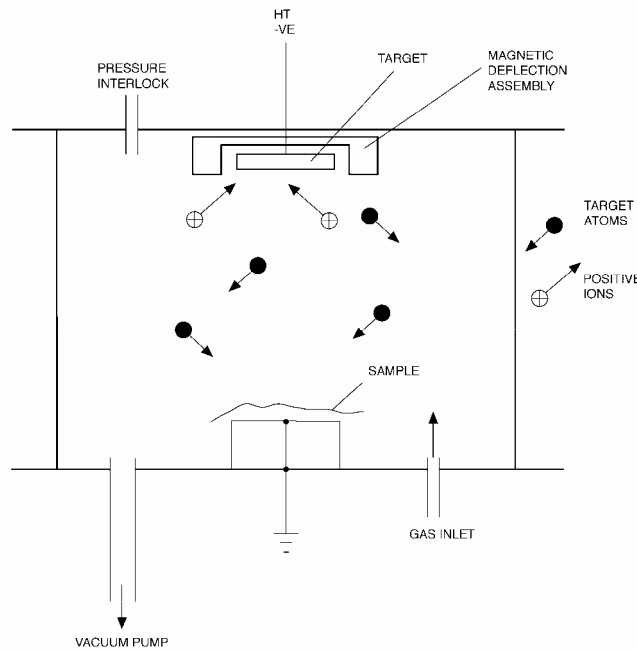

Figure 4-6: Sputter Coater Operation
A High Voltage (HV) is applied between the Target (cathode) and Baseplate (anode) which is at earth potential. A pressure interlock ensures that the HV supply cannot be activated until vacuum chamber pressure is reduced to 10^{-1} mbar or better. Low pressure gas (argon is preferred) is leaked into the vacuum chamber to provide a medium for ionisation. Figure 4-6 shows the principles of operation of the SC7680.